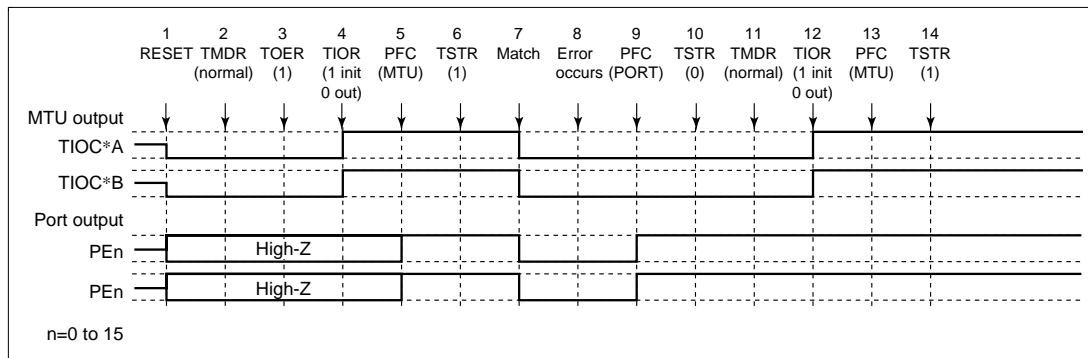

Figure 12.96 Error Occurrence in Normal Mode, Recovery in Normal Mode
(1) Operation when Error Occurs during Normal Mode Operation, and Operation is Restarted in Normal Mode: Figure 12.96 shows an explanatory diagram of the case where an error occurs in normal mode and operation is restarted in normal mode after re-setting.
1 to 10 are the same as in figure 12.96.